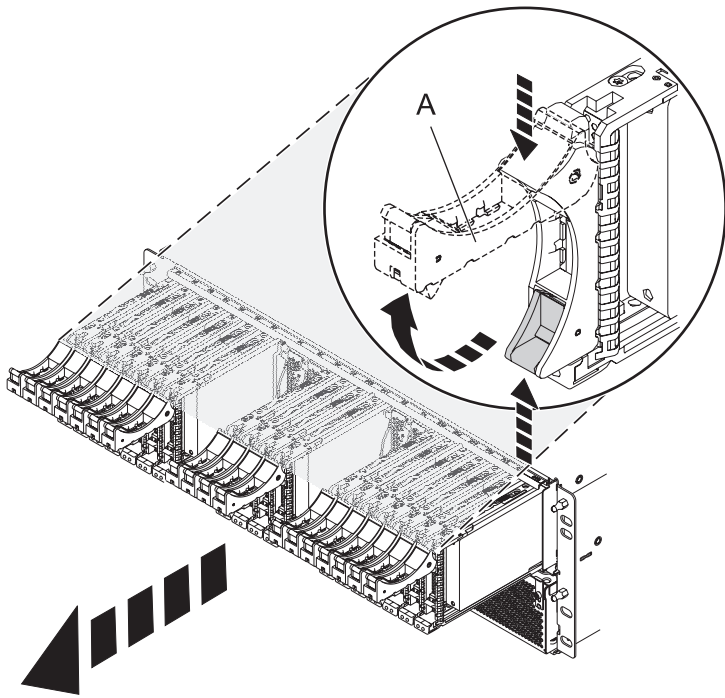

Figure 103. Removing the drives from the backplane
4. Remove the drives and fillers as shown in Figure 103 on page 107.
- a. Squeeze the latch of the drive and pull the handle (A) toward you to release the drive.